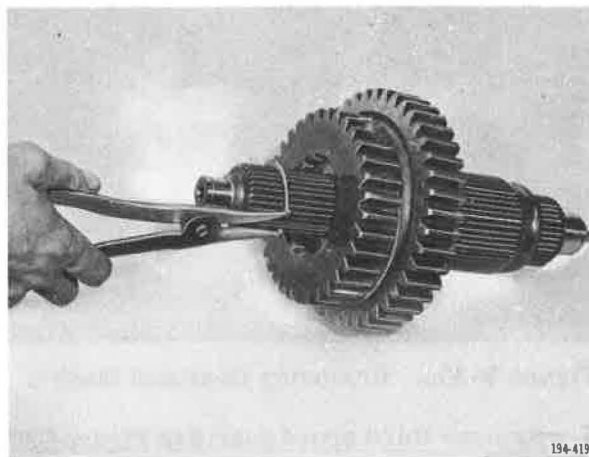

Figure 5-302. Removing Snap Ring
4. Remove fourth speed gear retaining snap ring, using snap ring pliers J-29045 or equivalent. See Figure 5-302.